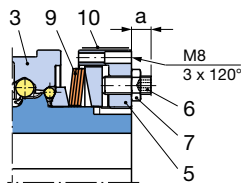

Fig. 10
- EAS®-Compact® overload clutch, Sizes 4 - 5: find dimension "a" in the Adjustment Table (10) glued to the adjusting nut (5) (Fig. 10).
- Counter the set screws (6) again using hexagon nuts (7).
- By evenly screwing 3 hexagon head screws M8 (provided by the customer) into the adjusting nut (5) (Fig. 10).